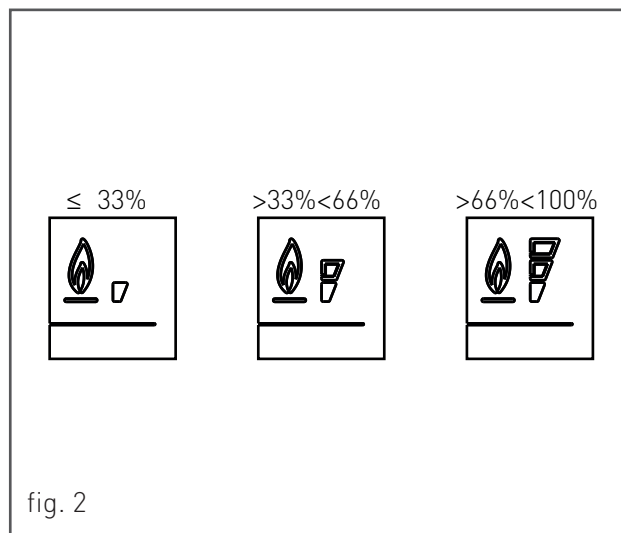

fig. 2
9. FLAME PRESENT SIGNALLING / IT ALSO INDICATES, ON 3 PERCENTAGE LEVELS, THE MODULATING POWER LEVEL OF THE WATER HEATER (fig.2)